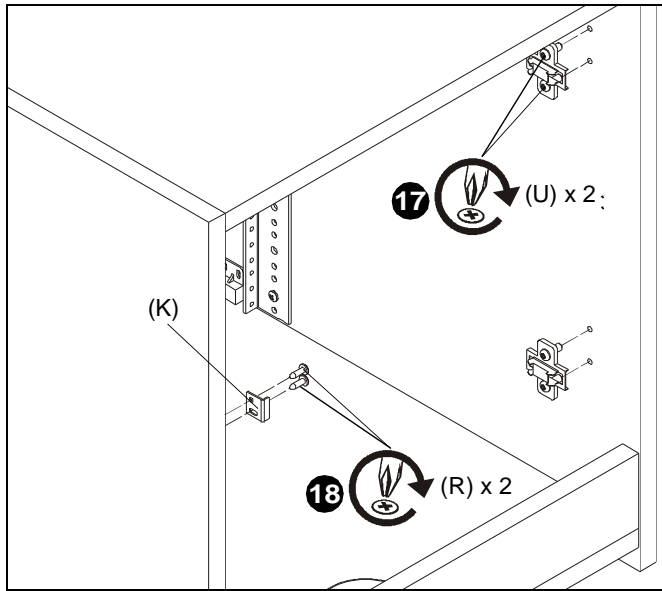

Figure 9
17. Use pre-installed screws to attach two mounting plates (U) to side panel where door hinges will be installed. (See Figure 9)
18. Use two #10 x 5/8" wood screws (R) to attach strike plate (K) to opposite side panel. (See Figure 9)